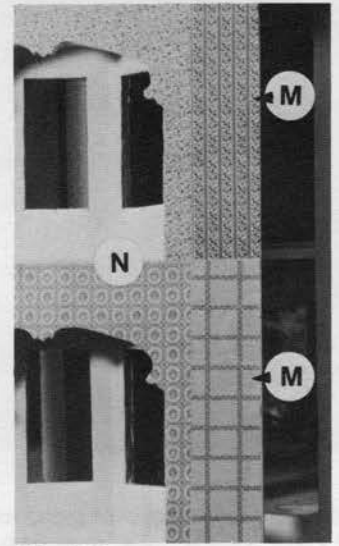

Fig. D-17
When papering a hinged front panel such as (N) in (FIGURE D-17), make sure to match the paper to the rooms, (M), so that when looking into the room from the back window the room looks complete.